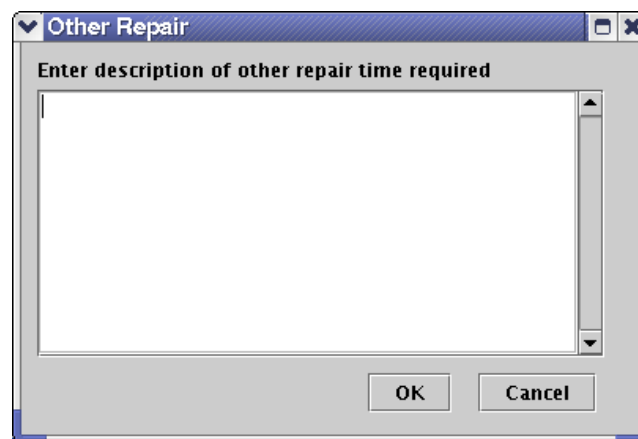

Figure 5-18. Other Repair Window
5.4.1.2 Repair Time Fields. The nine rows on the right of the Maintenance Log are the Repair Time fields. The operator enters the time in Hours (first column) and Minutes (second column) into the appropriate fields. The ninth row contains the “Other” Repair Time. When entering data into this row, the operator needs to select the **Specify** button. The Other Repair window (Figure 5-18) appears, and the operator enters a brief description of the repair time in the space provided.